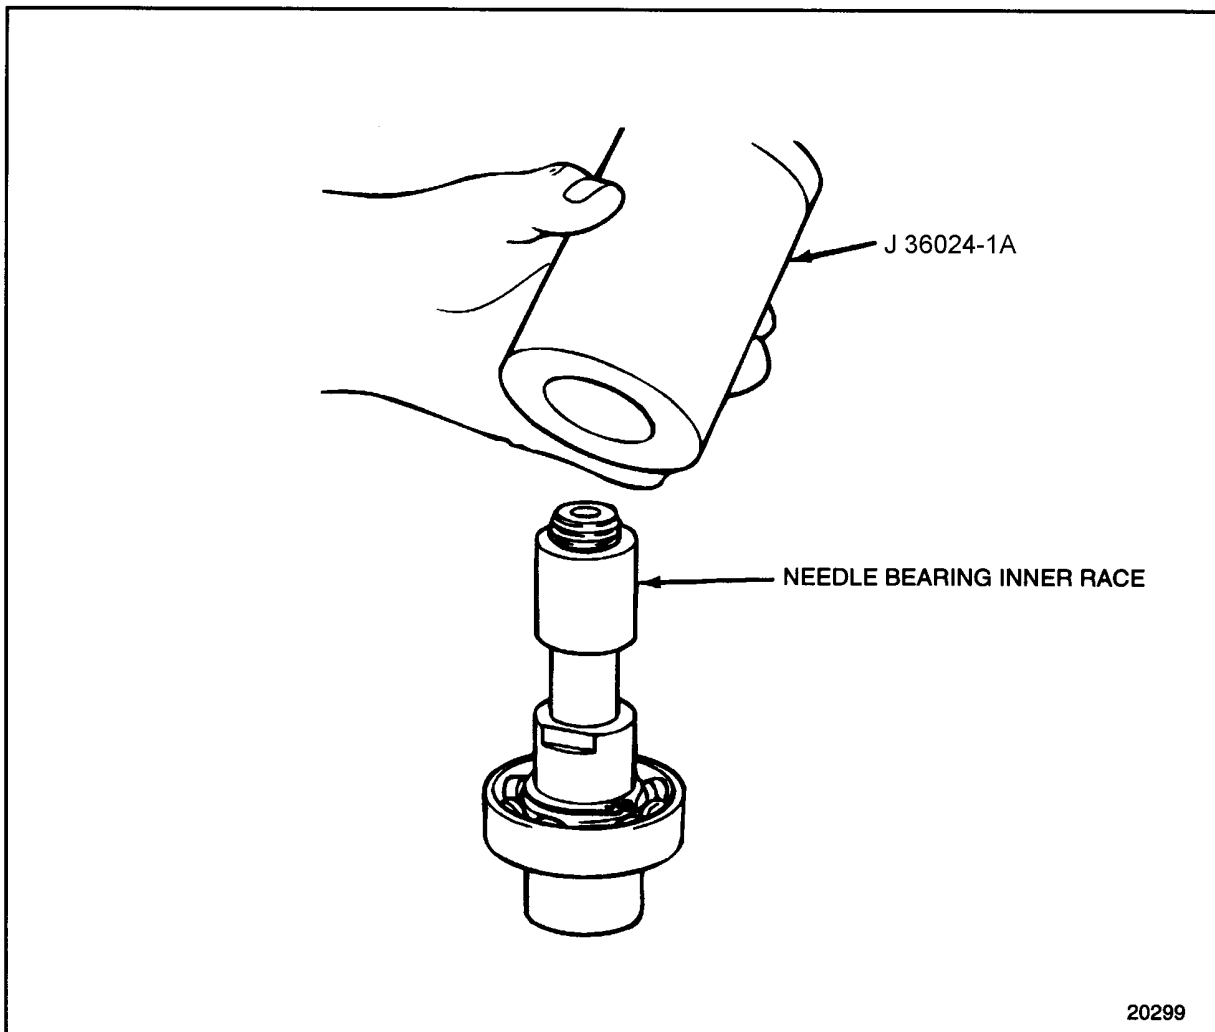

Figure 1-400 Bearing Inner Race Installation
3. Place the needle bearing inner race on the accessory driveshaft. Use tool J 36024-1 part of J 36024-C and a press to install the bearing inner race to the shaft until it is tight against the shoulder. See Figure 1-400.